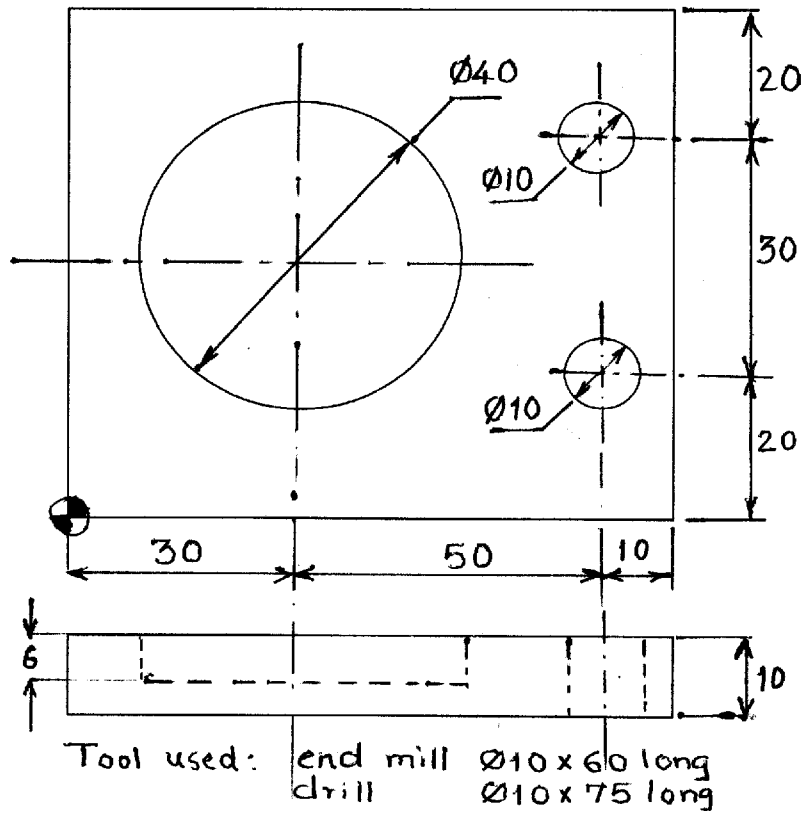

Fig. 4
- (4) (a). Write the manual part program for circular pocket milling and drilling operations as shown in Figure 4. (6)